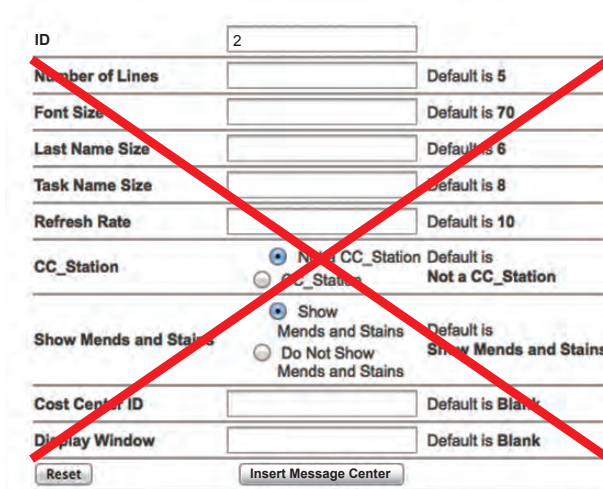

Figure 67. Message Center Admin: Add a new Record form.
4. Ignore all the other fields on this page and press the **Insert Message Center** at the bottom of the form ( see Figure 67).